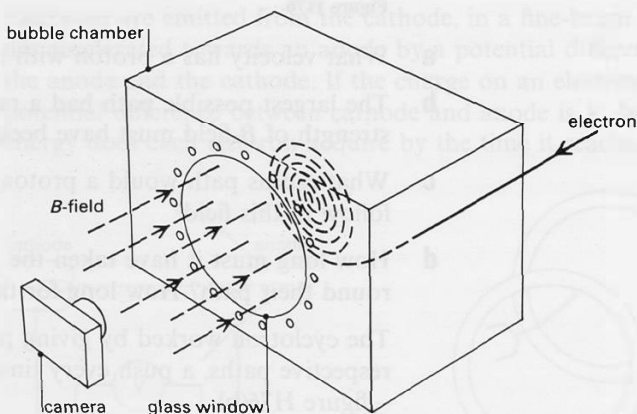
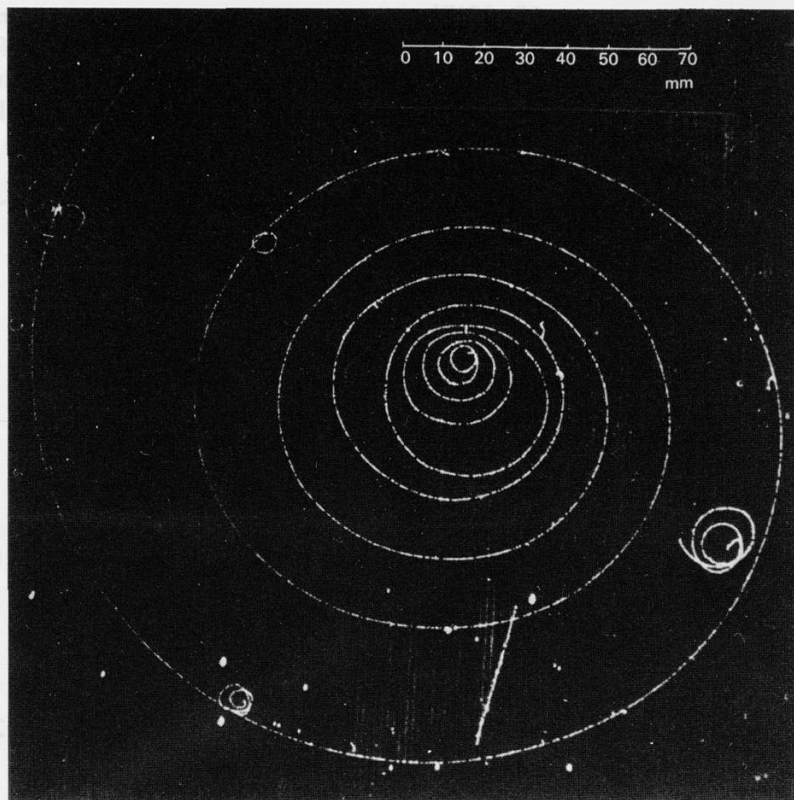

Figure H78
Figure H79
- 14(R)** The photograph, figure H79, shows the path of an electron beam in a bubble chamber when there is a magnetic field at right angles to the plane of the beam. Figure H78 shows the apparatus.